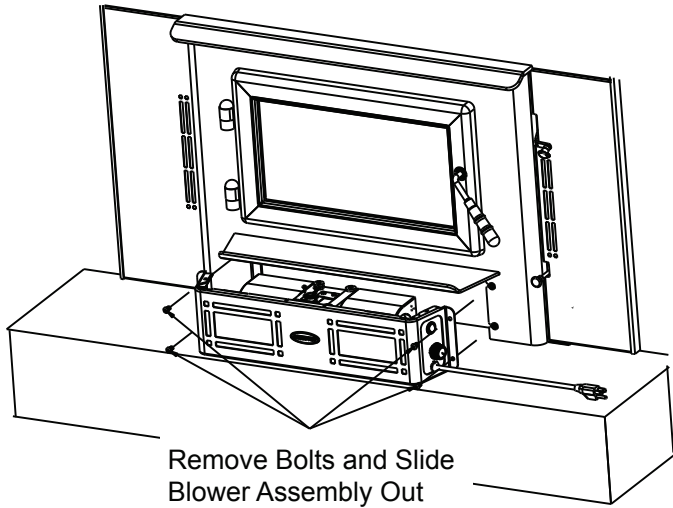

Figure 26.1
1. Using a 5/32 Allen wrench, remove 4 blower housing mounting bolts and slide assembly out (**Figure 26.1**).